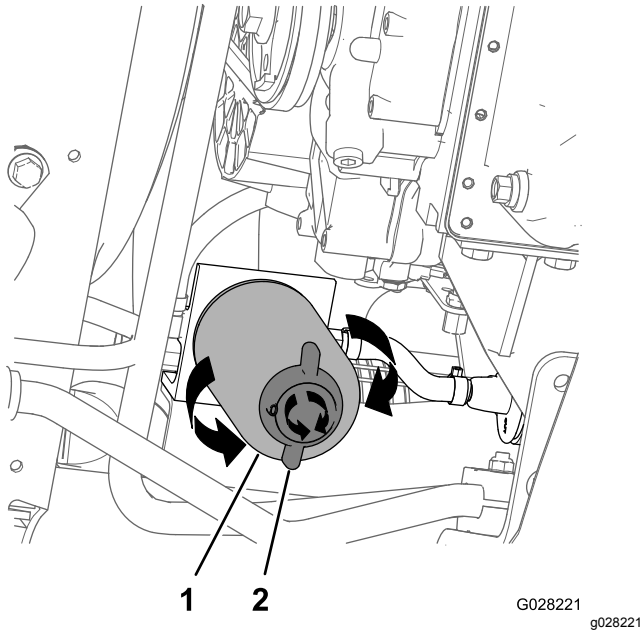

Figure 77
- Align a drain pan under the fuel filter; refer to Figure 77 in Replacing the Water-Separator Filter (page 60).
2. Place a drain pan under the water-separator filter (Figure 77).
3. Rotate the drain valve at the bottom of the water-separator filter counterclockwise (Figure 77).
4. Clean the area around the water-separator filter and filter-adapter mount (Figure 77).
5. Remove the water-separator filter (Figure 77).
9. Ensure that the drain valve at the bottom of the water-separator filter is rotated clockwise tightly (Figure 77).